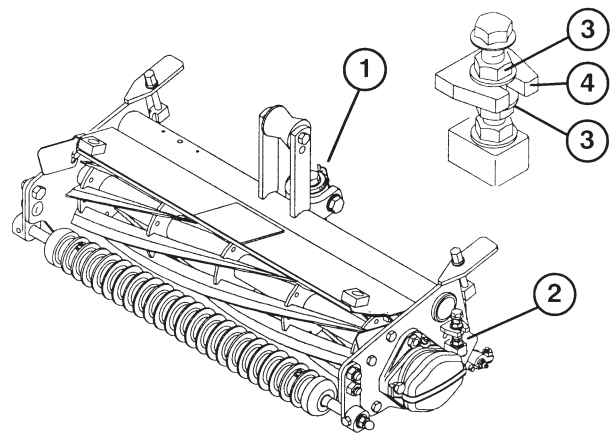

Figure 1
Adjusting the Bedknife to the Reel (Fig. 1 & 2)
2. Make sure reel contact is removed by turning the bedknife adjustment knob counterclockwise (Fig. 1)
5. Rotate the flange nuts (Fig 1, inset) on the top and bottom of the frame tab, clockwise or counterclockwise to raise or lower the end of the bedbar, as required. Do not loosen the bottom flange nut. Tighten the flange nuts against the frame tab when you achieve the desired adjustment..